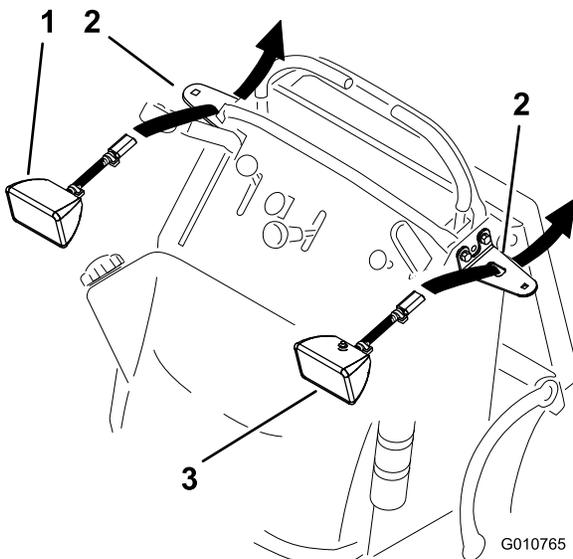

Figure 2
2. Slide the light connectors into the holes in the brackets (Figure 2).